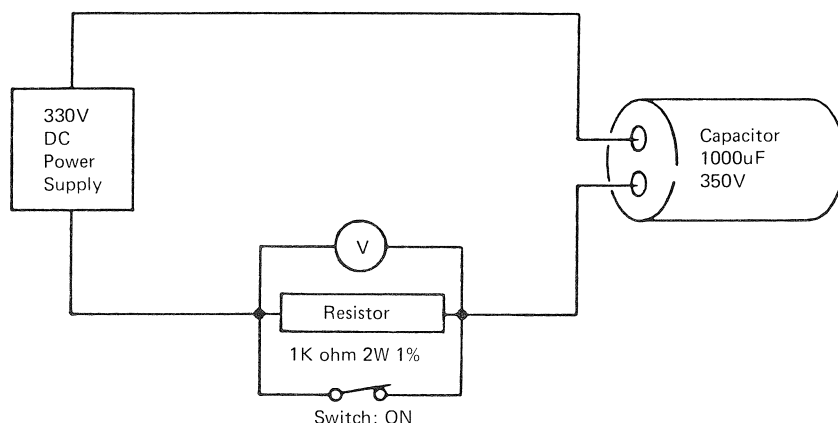

Figure 3-2. Main Capacitor Leakage Check
- Disconnect main capacitor C21 from the circuit (after discharging it through a 100 ohm, 10W resistor) and connect it to the test circuit as shown in Figure 3-2.